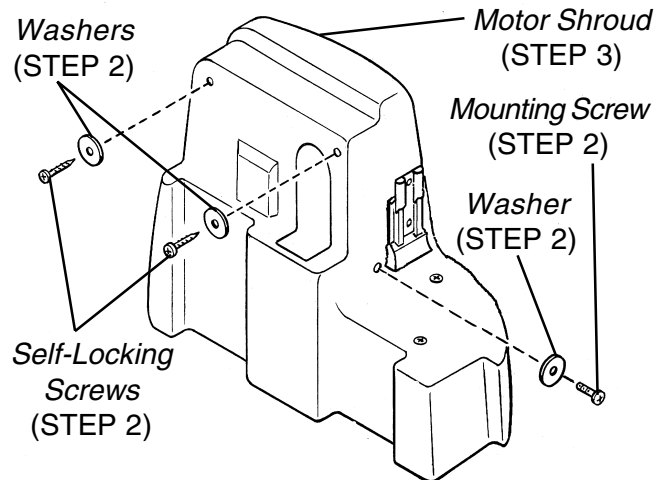

FIGURE 3 - REMOVING THE MOTOR SHROUD
## Removing the Motor Shroud (FIGURES 3 AND 4)
2. Remove the mounting screw, two (2) self-locking screws and three (3) washers securing the motor shroud to the bath lift frame. Refer to FIGURE 3.